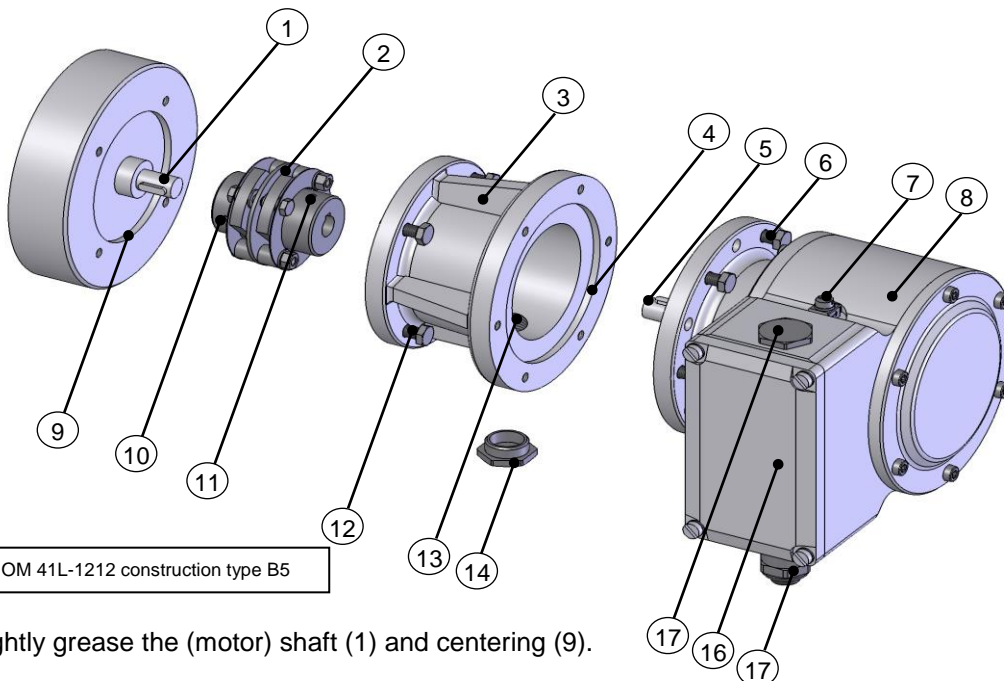

Fig. 1: UOM 41L-1212 construction type B5
1. Open the terminal box cover (16, Fig. 1:)